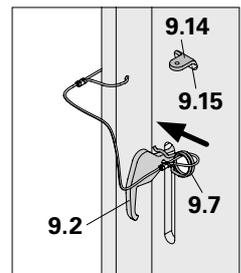

Fig. A1.33
3. 3. Secure one counterholder (9.2) with a cotter pin. (Fig. A1.33)
1. 1. Fold down ladder with yellow bar (9.4). When folding the yellow bar, ensure that the lug (9.14) is positioned in the slot (9.15). (Fig. A1.33)